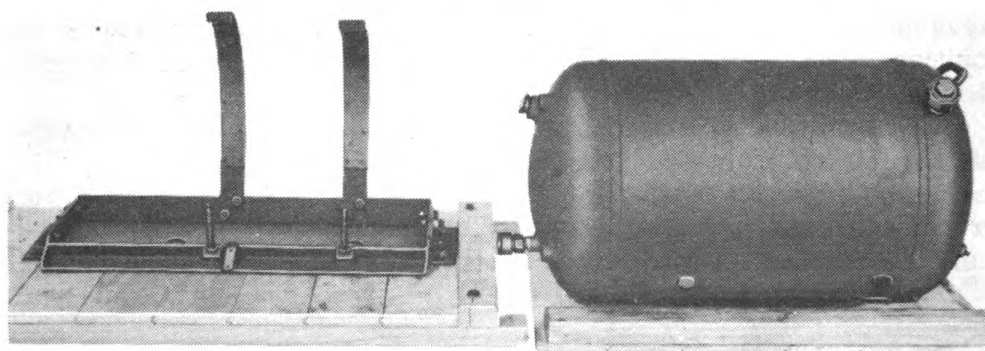

Fig. 12. Fuel container removed, showing back fuel container straps on baseplate of sponson fuel group.
(16) Lift out fuel container (fig. 12).